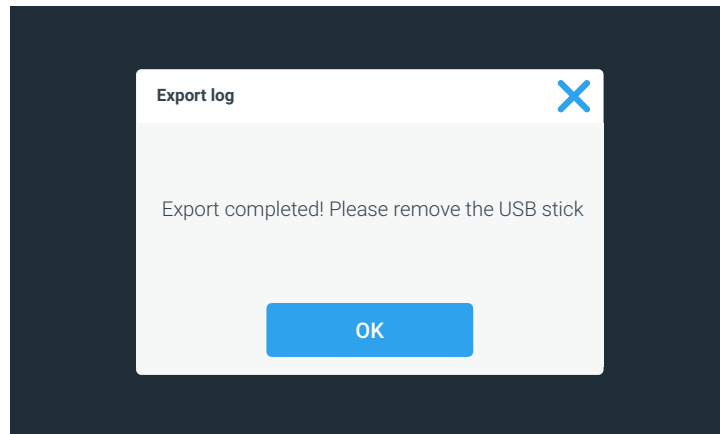

Figure 115 “Export log” Screen: Export completed
5. When the export process has been completed, the final pop-up window shown in Figure 115 appears, announcing that you may remove the USB drive now.